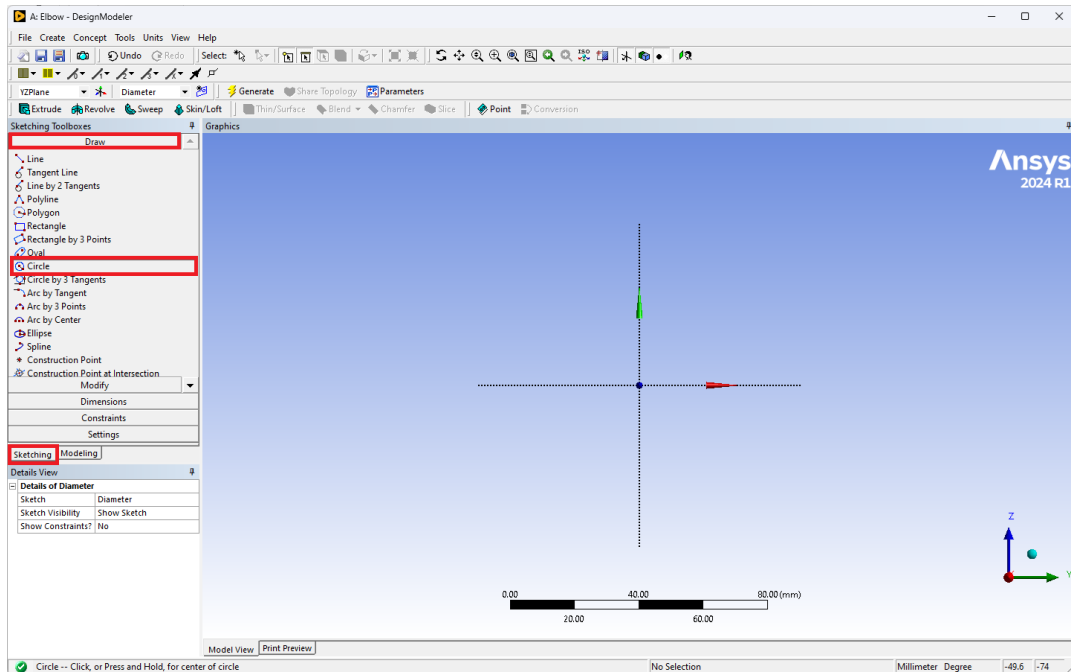

Figure 12: Selecting the *Circle* item in the *Draw* submenu in *Sketching*.
- Move to the *Sketching* menu on the left and select *Circle* in the *Draw* submenu, as shown in figure 12. At this point: